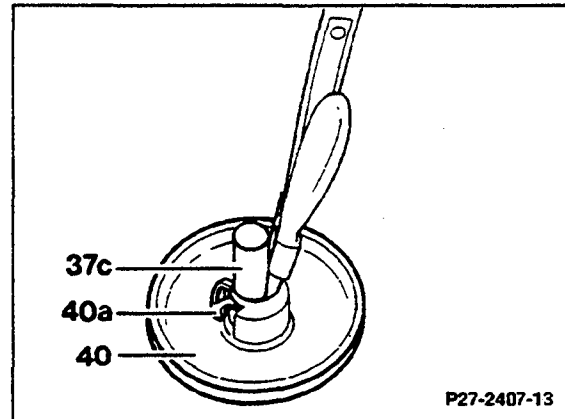

Figure 2
2. Spread lock (40a) in piston cover (40) using spreading snap ring pliers and remove pin (37c). Lock (40a) remains in piston cover (40, Figure 2).